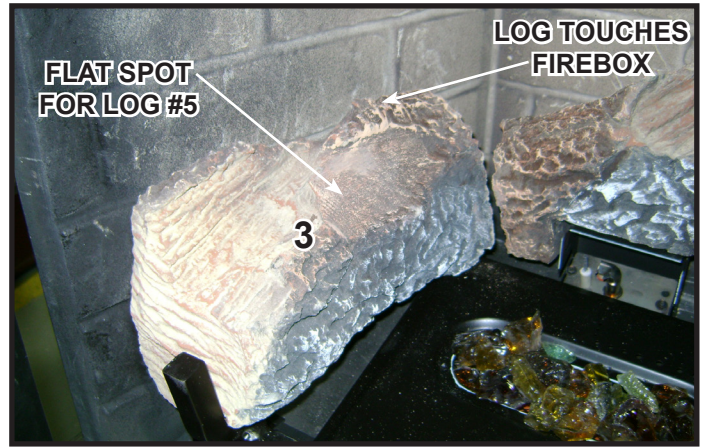
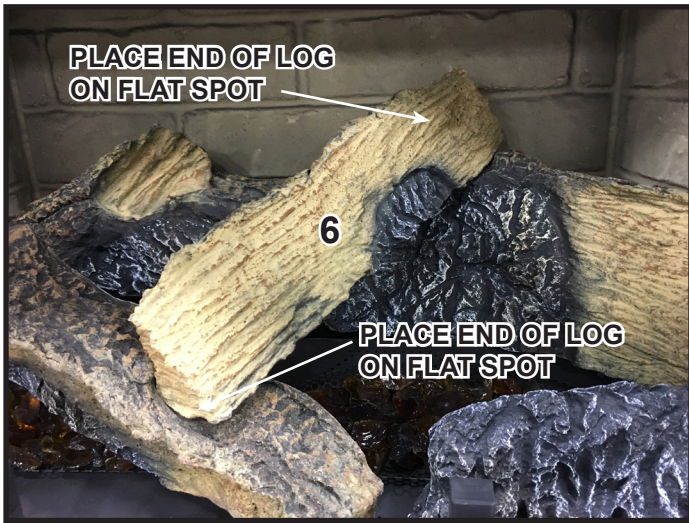

Figure 7. Place Log #3
Figure 12. Place Log #6
**Log #3 (SRV2221-702):** Position Log #3 as shown in Figure 7. See Figure 2 and Figure 8 for additional reference points. Mate the base of the left grate tine with the groove located on the bottom of the log. Pull the log forward until it stops against the vertical portion of the grate tine. Swing the rear of the log counterclockwise until it touches the firebox.
**Log #5 (SRV2221-704):** Position Log #5 as shown in Figure 11. See Figure 2 and Figure 12 for additional references. Rest the left end of Log #5 on the flat spot indicated in Figure 7. Locate right end of log against the grate and to the left of the log pin. Ensure the nose of the log does not cover any burner ports.
**Log #6 (SRV2221-705):** Position Log #6 as shown in Figure 12. See Figures 2, 5 and 11 for additional reference points. Place the front end of log #6 on the flat spot indicated in Figure 11. Place the back end of Log #6 on the flat spot indicated in Figure 5.